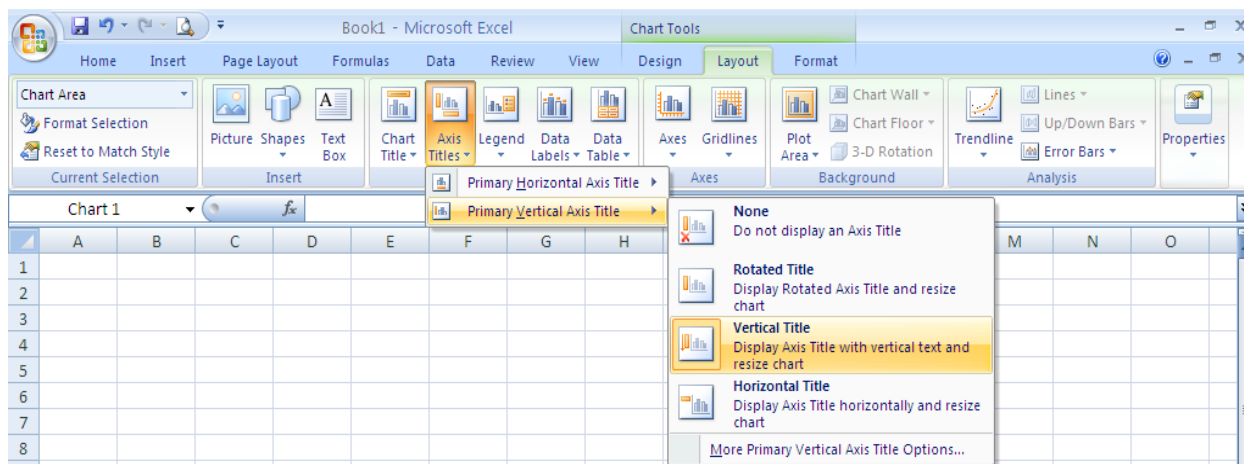

Figure-6
5.14 Again click the “Axis Title” icon as per shown in **Figure-6**.
5.15 Click the “Primary Vertical Axis Title” sub icon and select the “Vertical Title” as per shown in **Figure-6**.